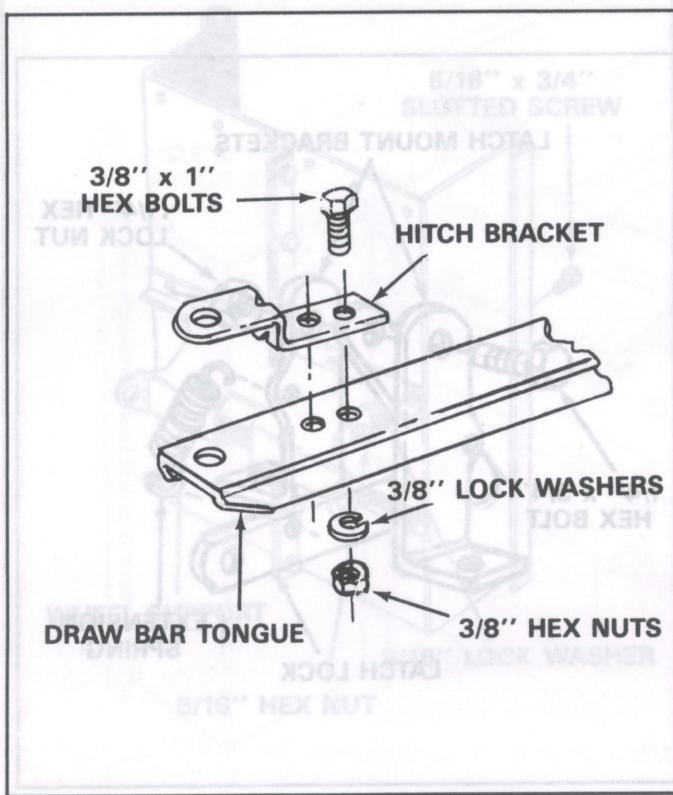

FIGURE 11
17. Assemble hitch bracket to drawbar tongue using $3/8'' \times 1''$ long hex bolts, $3/8''$ lock washers and $3/8''$ hex nuts. See figure 11.